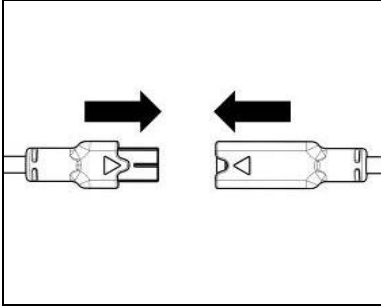

Fig. 5
- Hook up the microphone connector (blue) to the other end, following the directions of the arrows (Fig. 5).